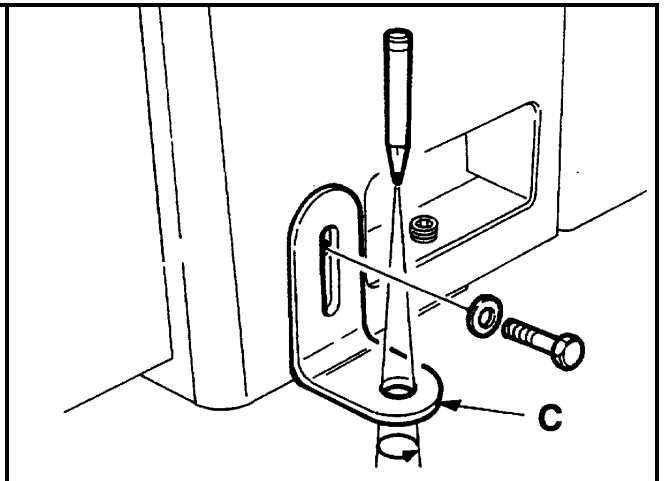

Fig. 05-02
- Fit the brackets "C" at the places provided for them and screw them into the holes in the structure (**Fig. 05-02**).